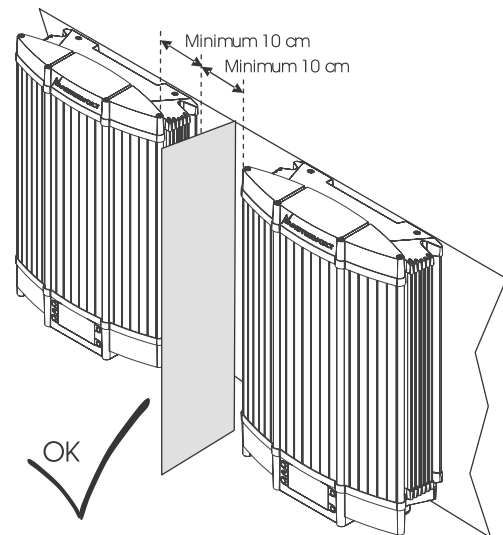

Figure 4
- Keep at least 50 cm in between the inverters when several Sunmasters are installed next to each other (figure 5). If this is not possible, adequate measures must be taken to avoid one inverter heating up the other (figure 4).